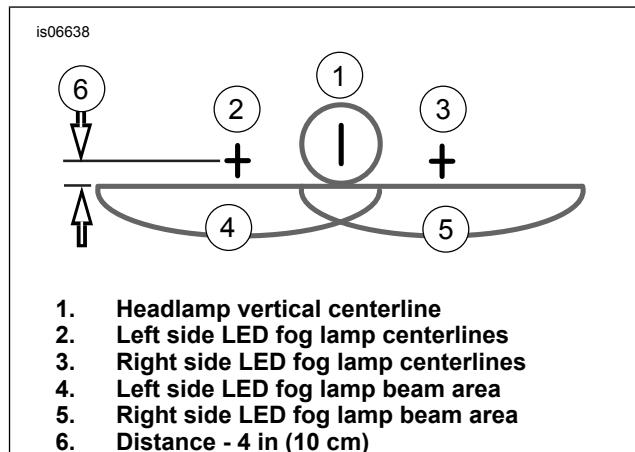

Figure 2. Properly Aim LED Fog Lamps
9. See Figure 2. Mark the LED fog lamp horizontal and vertical centerlines (2 and 3) on the wall.
- The beam area (4) is horizontally centered on the left side fog lamp center lines (2).
- The beam area (5) is horizontally centered on the right side fog lamp center lines (3).